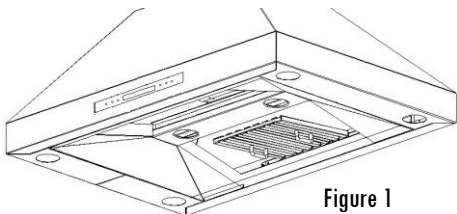

Figure 1
1. Angle baffle filter toward front of hood or control side Figure 1 & 1A